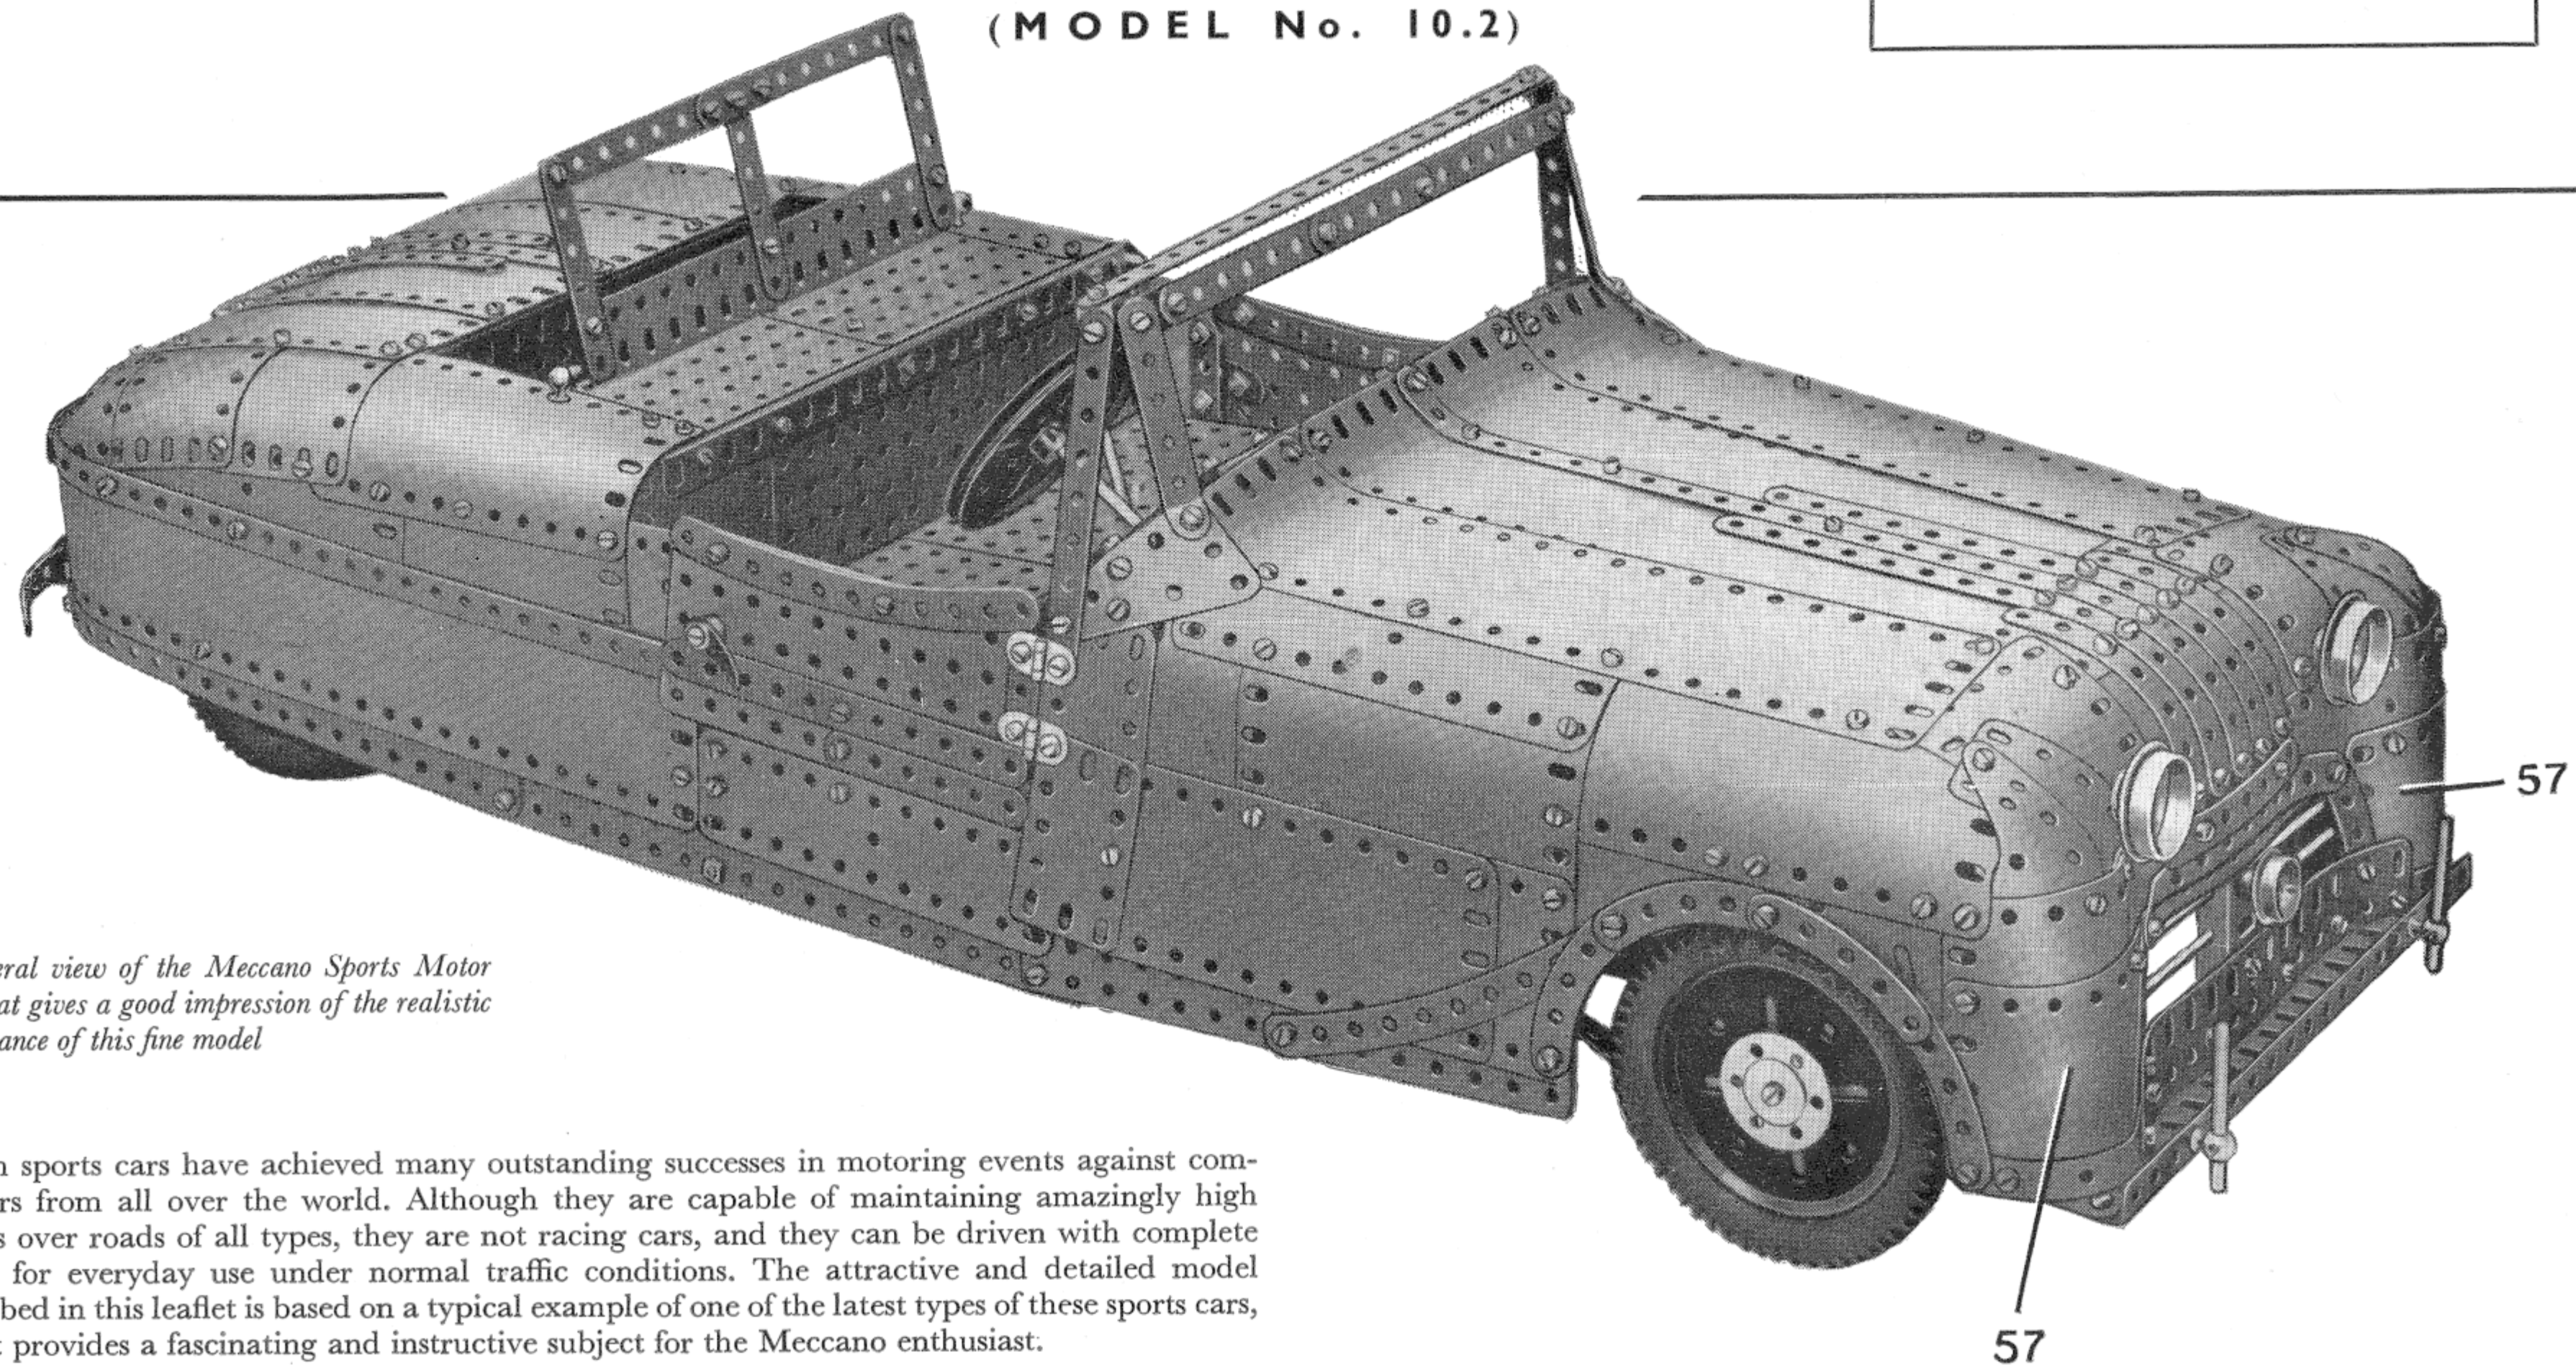

FIG. 1
The general arrangement of the Plates that form the sides and the top of the body is shown clearly in Figs 1, 9, and 10. The curved front is formed by a $3\frac{1}{2}" \times 2\frac{1}{2}"$ Flexible Plate (57) on each side, and the lower corners of these are connected by a $7\frac{1}{2}"$ Flat Girder. A $9\frac{1}{2}"$ Flat Girder is